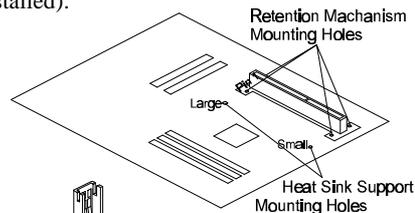

Figure 2-6
1. Finds out the Universal Retention Mechanism (URM) Mounting Holes of Slot1 on HOT-675V main board. (Refer to Figure 2-6)